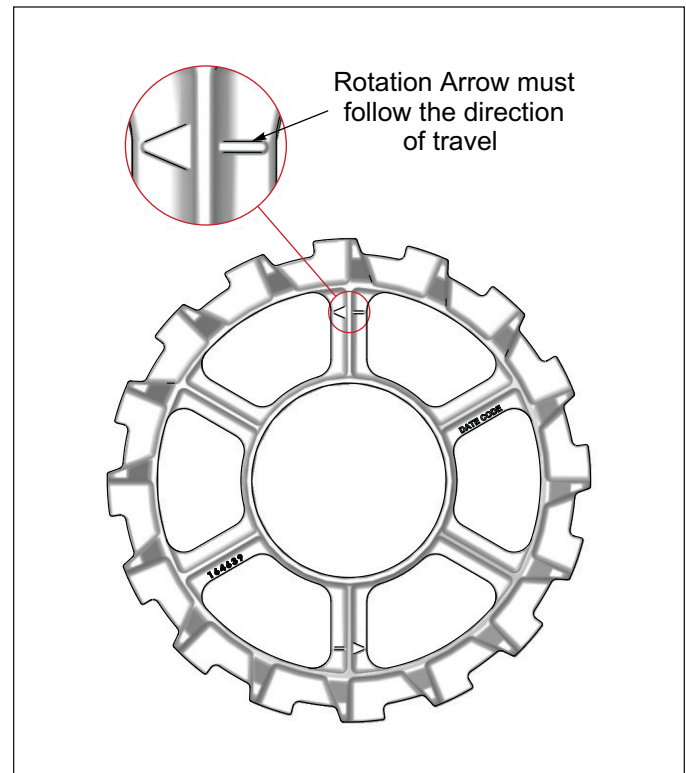

Figure 2-16: Crowfoot Wheel Rotation Arrow
1. Roller Assemblies are pre-assembled from the factory with stub shafts, bearings, shims, and retaining washers. **NOTE:** *Crowfoot Wheel Rotation Arrow must follow the direction of travel.* See **Figure 2-16.**